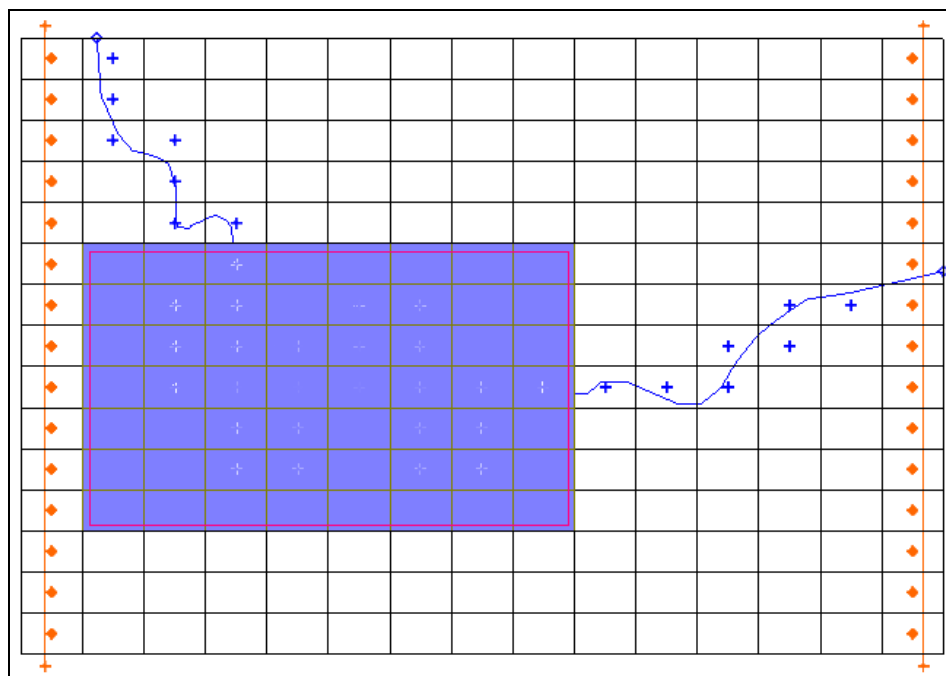

Figure 3 The selected cells for the child grid
6. Using the **Select Cells**  tool, drag a box to select the cells in the red rectangle. Be sure to get all the cells touched by the rectangle. The region of selected cells should be 8 wide by 7 high (Figure 3).